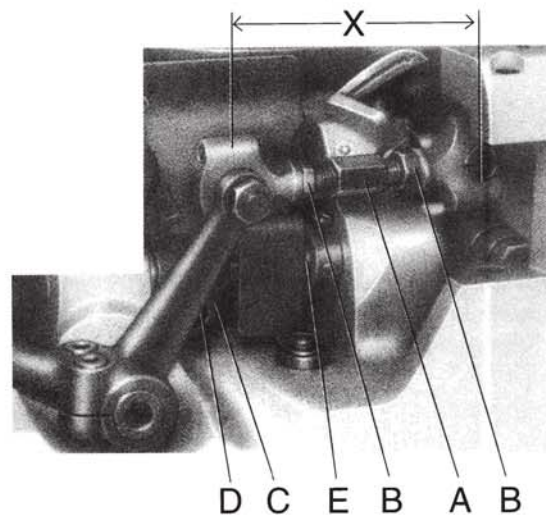
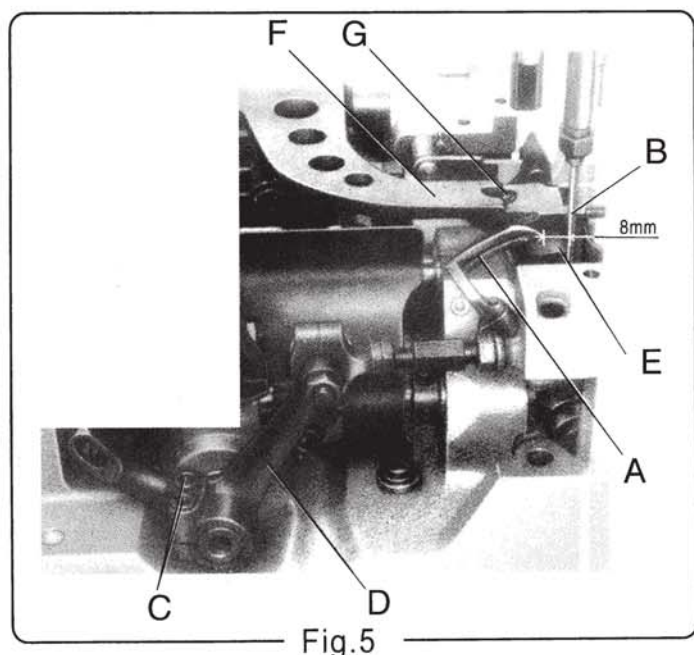
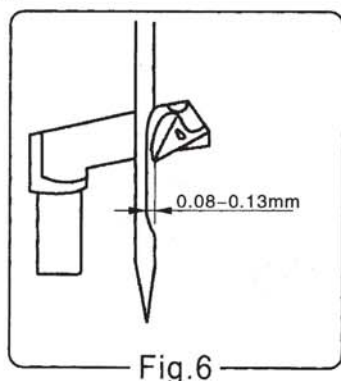
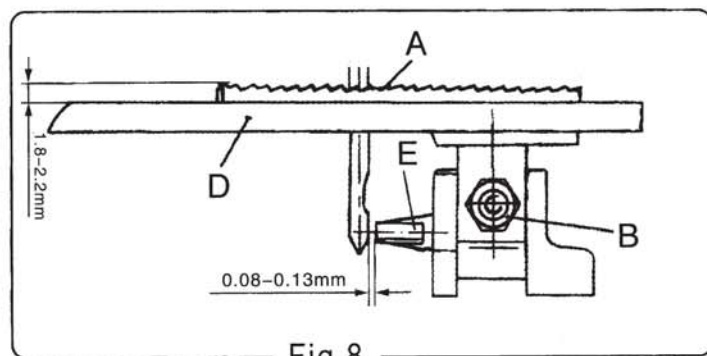

Fig.4
Fig.5
Fig.6
Fig.8
(1) Looper
- a. First set the looper connecting rod A(Fig.4), so the distance X (Fig.4) between the centre lines of the two ball joints is 69.8mm. For adjustment, loosen the two nuts B and turn connecting rod A forward or backward as required to obtain specified dimension. Retighten nuts B.
- b. Rotate the machine pulley clockwise by hand, so that the needle bar moves to the lowest point, at the same time the looper moves back to its farthest position to the right. The distance from the point of the looper A (Fig.5) to the centreline of the needle is 8mm. For adjustment, loosen two screws C in the looper drive lever, rotate looper drive lever D left or right as required to obtain specified dimension and retighten screws C.
- c. Rotate the machine pulley so that the looper A(Fig.5) moves from right to left. The looper point should pass close as possible as the back of the needle without contacting, about 0.08~0.13mm (Fig.6) clearance. For adjustment, loosen screw D(Fig.4) in the looper eccentric fork C and turn rocker shaft E on the looper rocker with the looper forward or backward as required. Retighten screw D.
(2) Needle Bar
The needle guard E(Fig.8) will protect the needle and prevent it from bending or breaking when the needle goes down. The clearance between the needle and the needle guard is 0.08mm~0.13mm(Fig.8).For adjustment, rotating pulley in the direction of operating, so that the needle guard moves against the needle. Loosen set screw G on feed dog holder (Fig.5), move the needle guard accordingly. Retighten screw G.
The height of the feed dog A (Fig.8) is determined by the quality and the thickness of the sewing materials. For closing thin material such as bags made of cloth and plastic, teeth surface should project 1.8mm above the throat plate D top surface, and for sacks about 2.2mm above the throat plate. For setting, move the feed dog to the highest position, loosen nut B and adjust feed dog by raising or lowering it. Retighten nut B.